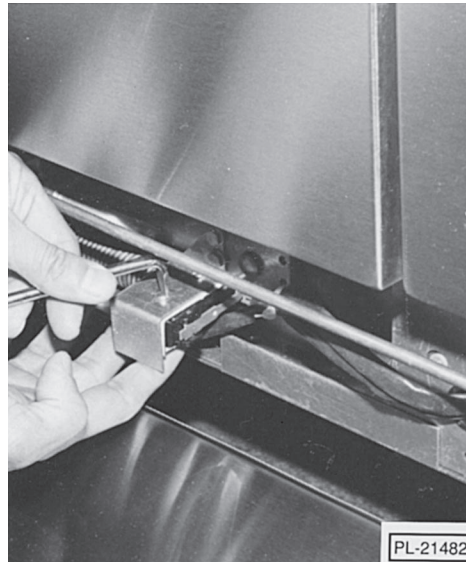

Fig. 52
3. Disengage (2) screws and (2) nuts from micro switch housing to access switch (Fig. 52).